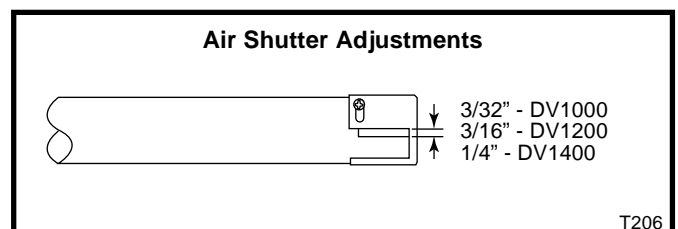

Fig. 42 Air shutter settings for propane/LP gas.
6. **Set the air shutter opening for the corresponding gas used.** (Refer to Figure 42 and Chart on Page 32)